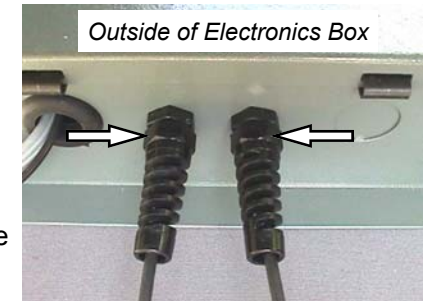

Fig 3.3 Strain relief for sensor cable (turn at arrow to loosen/tighten on cable)
4. Loosen the flexible part of the sensor cable strain relief. (Fig 3.3)